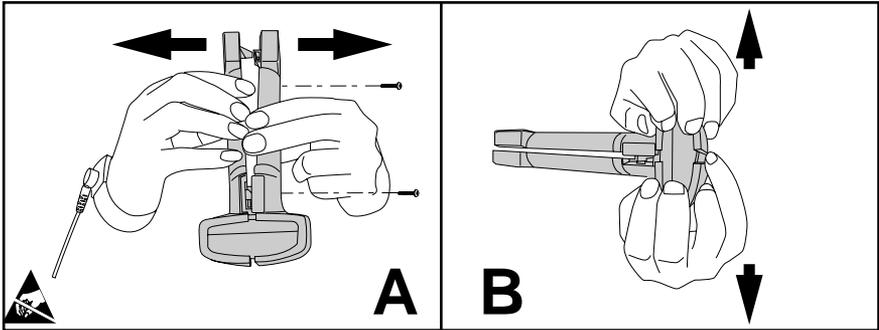

Figure 6. Separating the Enclosure
4. Starting at the handle, begin separating the two enclosure halves as shown in Figure 6 A. While firmly grasping the window lip, carefully work the two halves apart, attempting to leave all internal assemblies in place in the Left Enclosure (see Figure 6 B).